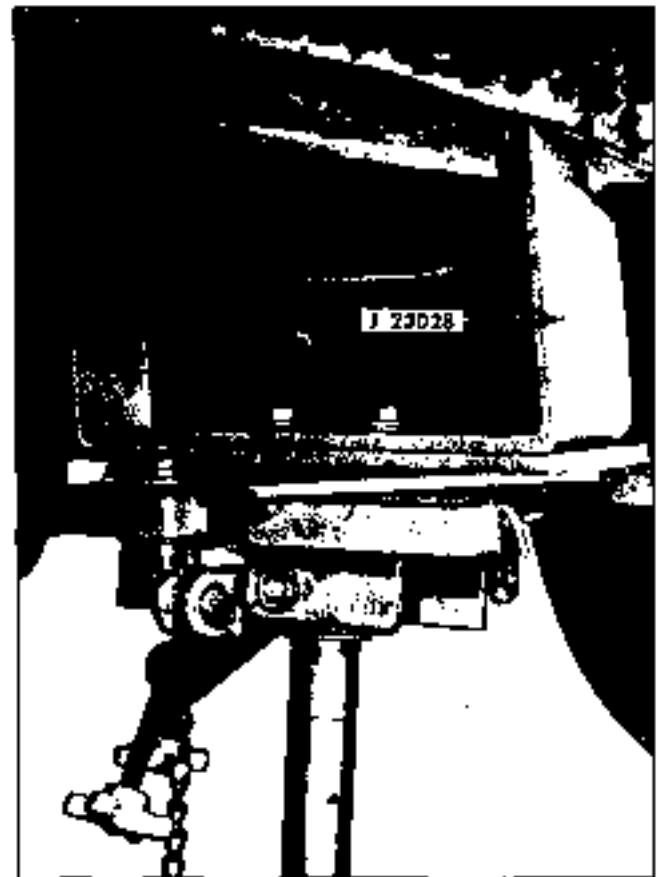

Fig. 3-10 Removing Coil Spring With J 23028
5. Using a hydraulic transmission jack, bolt adjustable spring removal tool J 23028 onto the jack and position under the two inner control arm bushings (Fig. 3-10).